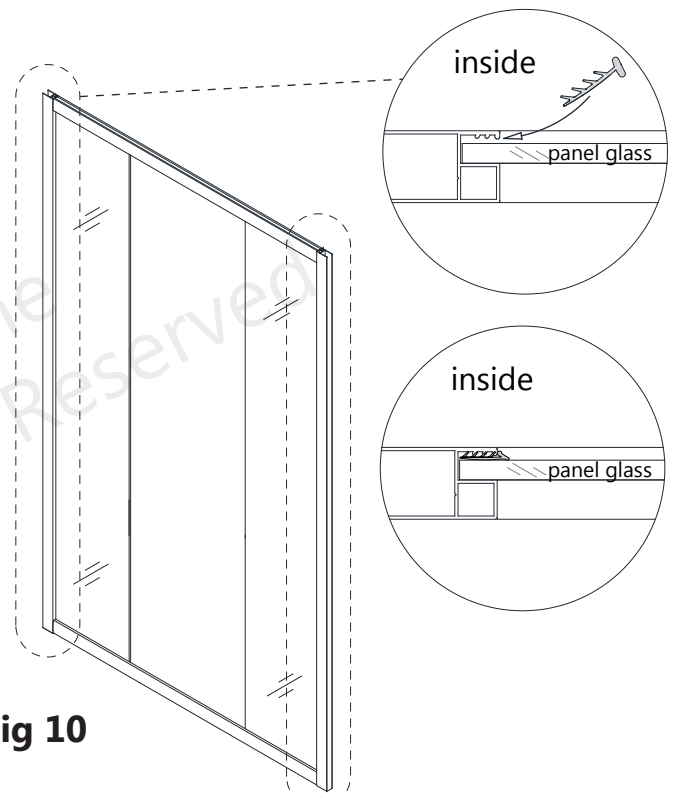

Fig 10
10. From the inside of the shower, install the **Side Strip Vinyl (#09)** in-between the **Panel Glass (#05)** and the **Glass Profiles (#01)**. Start from the bottom and do not stretch the vinyl. **(Fig 10)**